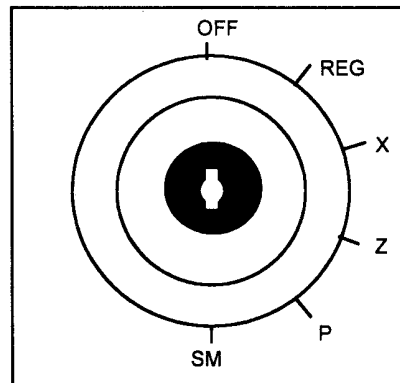

Fig. 3-2 Mode Key
- Confer to the Fig. 3-2 Mode Key.
The Samsung register offers several diagnostic routines while in the SM or Service Mode. Each of these tests require the "C" key to be turned to the SM Mode position. See the Fig. 3-2 Mode Key.
- 1) Insert the C key into the control lock (c.f. Fig.3-2 Mode Key) and turn clockwise to the SM (service) mode position. This position is not marked on the control lock plate, and only the C key will travel to this position.